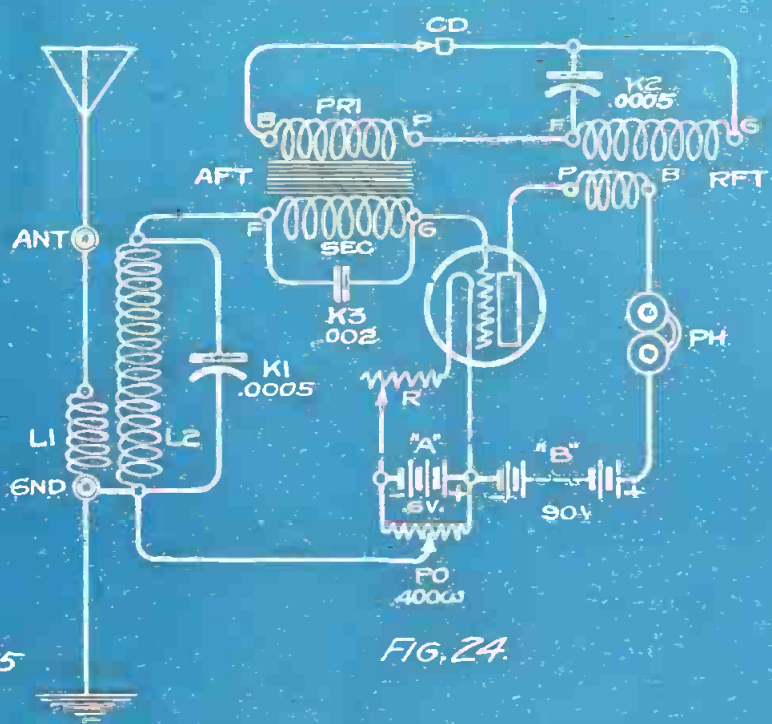

FIG. 24
Fig. 24 is a typical reflex circuit with the radio frequency transformer (RFT) and the audio frequency transformer (AFT), the former being tuned by the variable condenser (K2). A coupler is provided with the primary (L1) and secondary (L2) by which the set is tuned to wavelength. The grid bias on the tube is varied by the potentiometer (PO). The rest of the parts have been explained before.